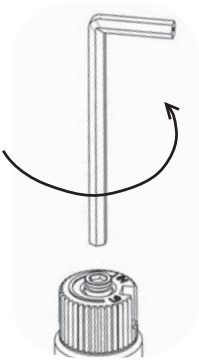

Fig. 2
- 11) Insert a 5/32" or 4mm Allen wrench into the hexagonal key-way of the screw (Fig. 2), rotate it counter-clockwise until it is free and extract it.